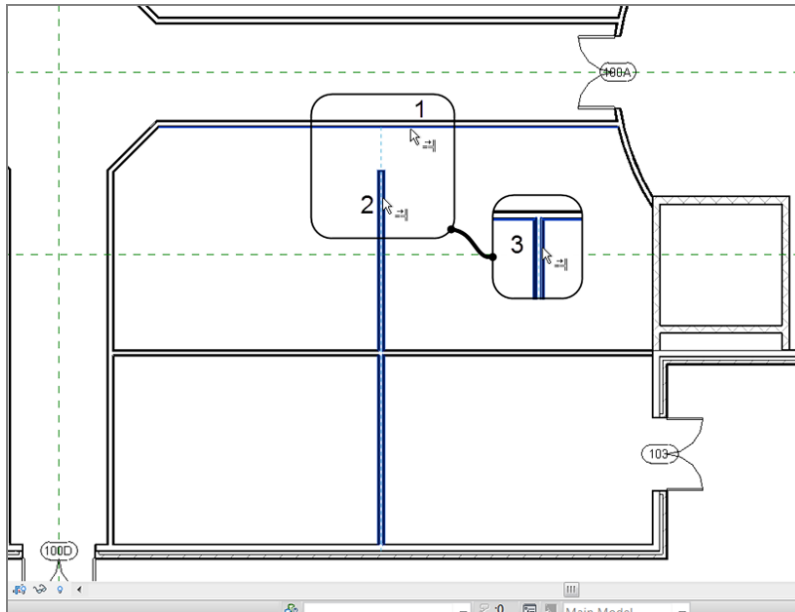

FIGURE 4.47: The finished walls
4. Pick the vertical wall that doesn't quite intersect. Press Esc, and your walls should now look like Figure 4.47.